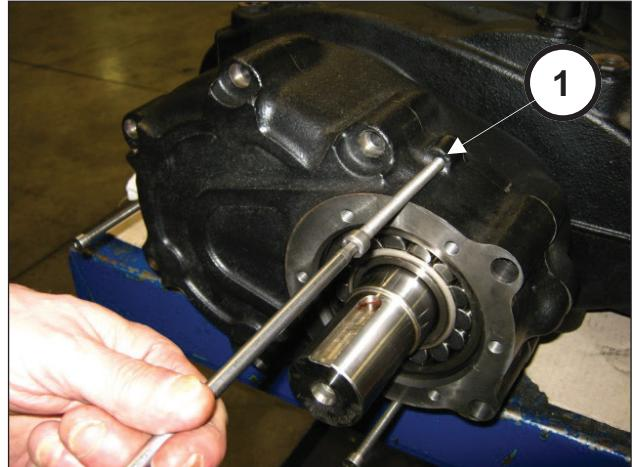

Fig. 8
Slowly screw in the 3 M8 screws (pos. ①, Fig. 8) with the function of extractors and at the same time, using the special tool (code 27884700), beat on it so that the bearing remains on the pinion during cover removal (pos. ①, Fig. 8/a).